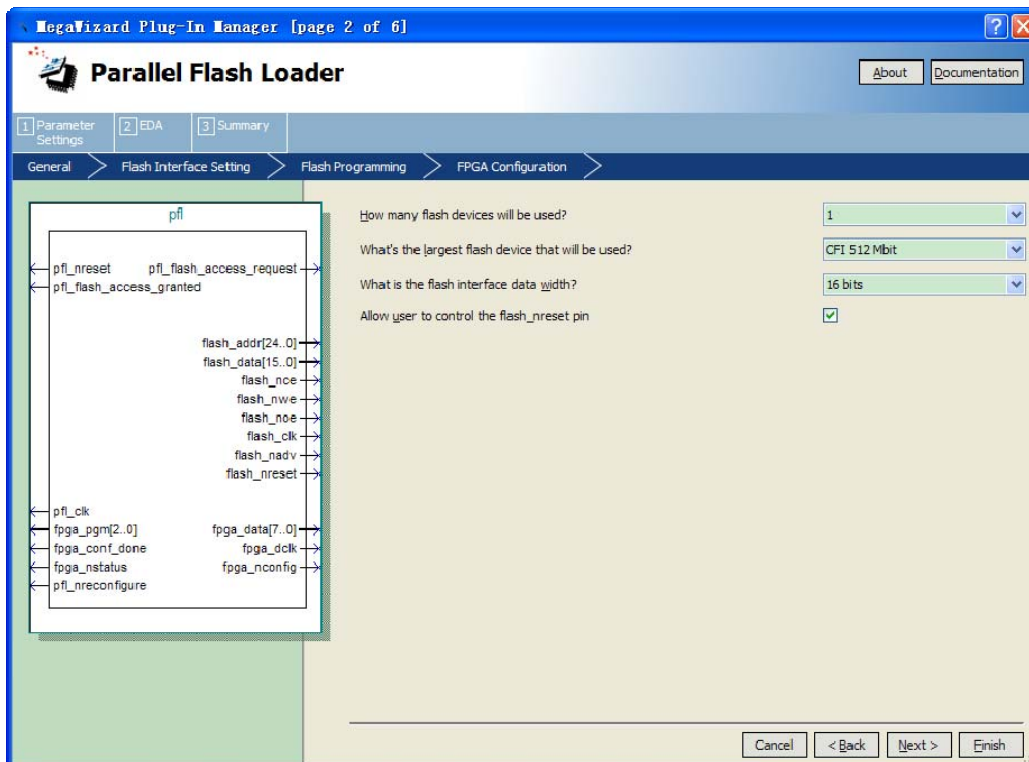

Figure 3-10 Setting the PFL Megafunction Parameters(Step 2)
7. Click Next. **Flash Interface Setting** page appears and specify value as shown in Figure 3-10.